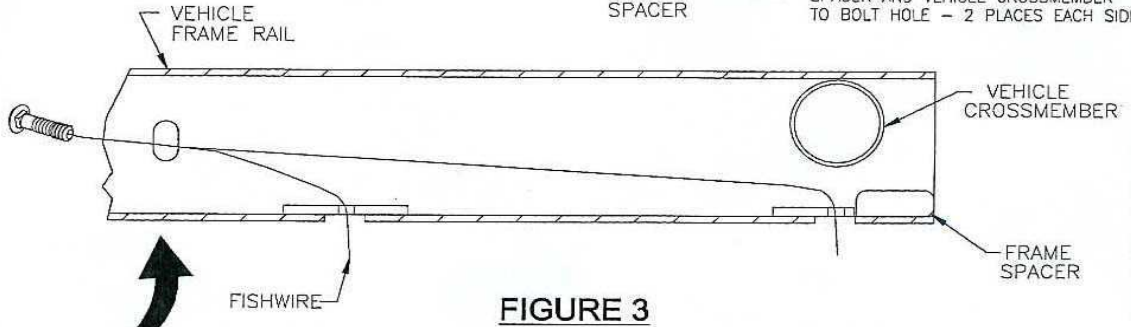
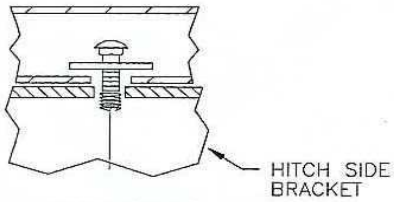

FIGURE 3
FIGURE 4
6. Cut the 6 FT. fish wire into two 3 foot pieces. Wrap the fish wire around the threads of carriage bolt. Fishwire bolts thru slots in frame (See figure 3) and into square blocks pushed into frame. See figure 4.